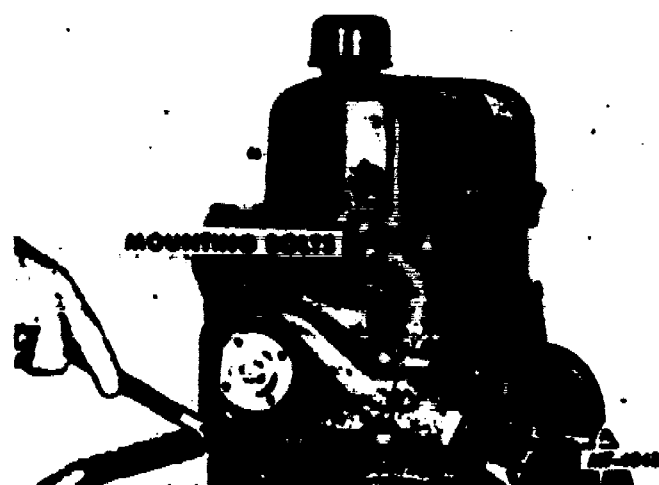

Fig. 7 - Removing Water Pump
13. Disconnect water by-pass hose from cylinder head. Remove four water pump mounting bolts and remove water pump. See Fig. 7.